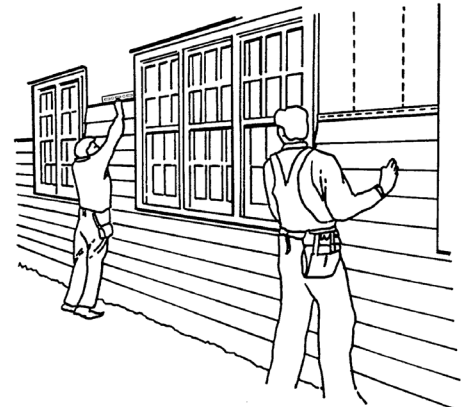

Figure 35
- Check every fifth or sixth course for horizontal alignment (Figure 35). Also check siding alignment with adjoining walls.